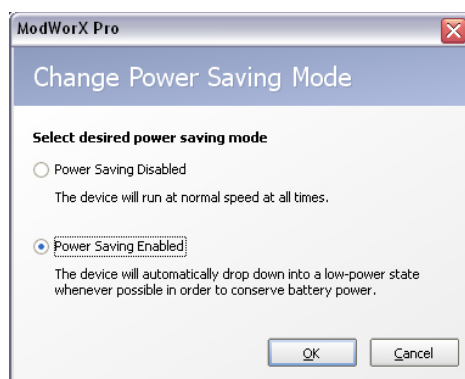

Figure A.12
2. Select **Power Saving Disabled** (Figure A.12, page A-13).